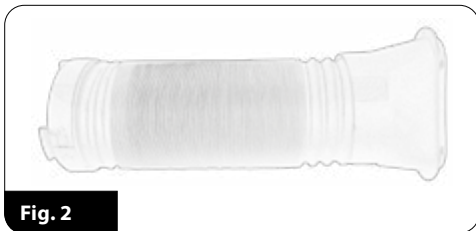

Fig. 2
3. Screw the mounting ring (17) on one end of the duct (15). The three prongs on the outer edge of the ring (17) must be on the outside of the duct (Fig. 2). Screw the mounting connector (16) on the other end of the duct (15).